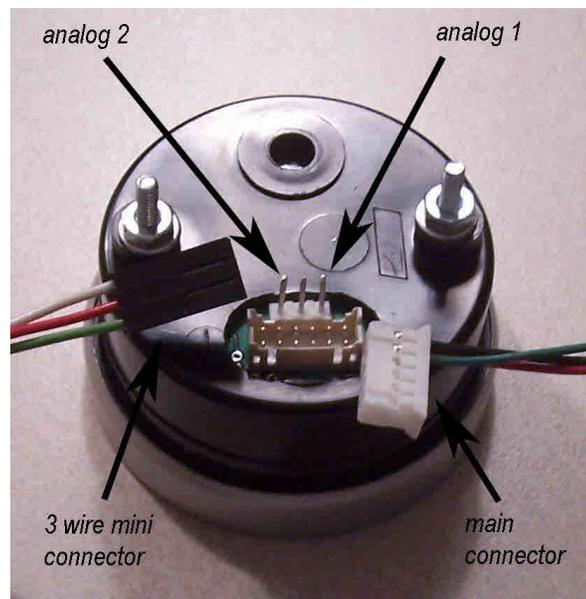

Figure 1
- 4. Plug both cables into the back of the *Interceptor*.** See figure 1. Press the *Interceptor(s)* into the gauge pod or mounting hardware.
6. **Connect 3 wire mini connector power if required\*. Remove the jumper next to the main connector if connecting to external power.** This jumper is required for OBD2 port power only. Connect separate **red** power wire, which exits the middle of the 3 wire mini cable as shown in *figure 1*, to a switched 12v line or circuit in the vehicle. These circuits are commonly known as “accessory” circuits because they are only “hot” when the ignition is turned on. A recommended way of doing this step is to use a product called an “*Add a Circuit*”, made by *Littelfuse*, available at most car parts outlets. These kits, which sell for under \$10, allow you to easily use an existing circuit in the fuse block to power an add-on accessory such as the *Interceptor* without the need to cut or splice any wires. The use of this kit is highly recommended, as most of the problems with the gauge can be traced to a poor selection of a 12v wire, or poor connection. If the gauge randomly turns off and on while driving, 90% of the time it is a poor connection to 12v or an improper circuit was tapped into, such as a signal wire to the instrument panel.
6. **Connect the 0-5v analog inputs (optional).** You will see 3 pins above the main connector on the back of the gauge as shown in *figure 1*. The 2 outer pins connect to the analog inputs. The center pin is for switched 12v power as described above and may not be required. The right side pin, when looking at the rear of the gauge, goes to analog input 1. The left pin is for analog input 2. See *figure 1*. Included in the gauge packaging is a 3 wire cable that connects here. Once attached to the gauge, you'll see that the green wire is for analog 1, the white for analog 2. These inputs can be used to read the outputs from pressure senders, A/F ratio analog outputs, 2 or 3 bar MAP sensors, or any voltage up to 5v that you want to monitor and/or record. You can scale these signals with a menu function described below. ***These inputs are rated for 0-5 volts, with an over-voltage protection circuit built in. However, running more than 6v into these inputs for an extended period of time could effect the operation of the entire gauge, and possible damage it.***